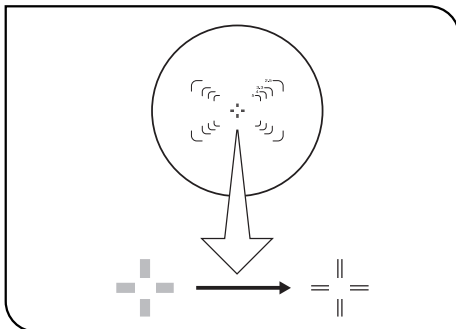

Fig. 13
1. Looking through the right eyepiece with your right eye, turn the eyepiece top ring until clearly defined double crosslines can be seen in the field of view. (Fig. 13)